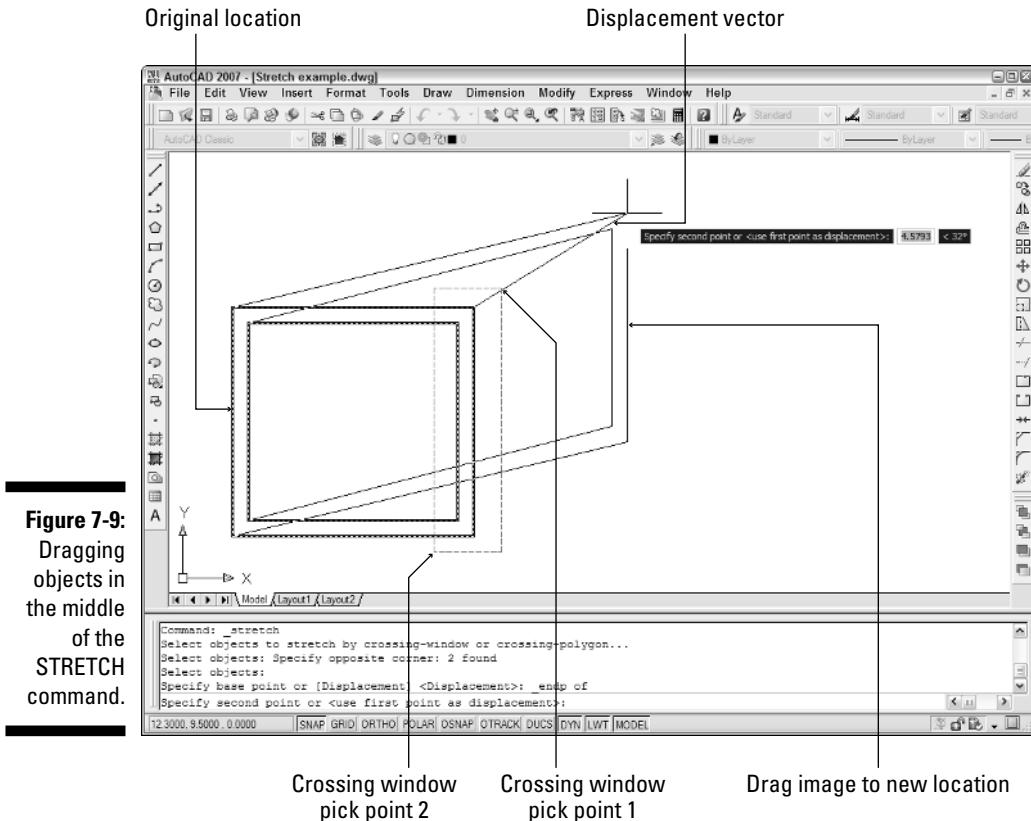

Figure 7-9:
1. Draw some lines in an arrangement similar to the dark lines shown in Figure 7-9.
Figure 7-9 shows a sample crossing selection box that completely encloses the two vertical lines on the right side of the figure. This crossing selection box cuts through the four horizontal lines, enclosing only one endpoint of each.
Figure 7-9 shows what the screen looks like as you move the crosshairs around with ortho off.